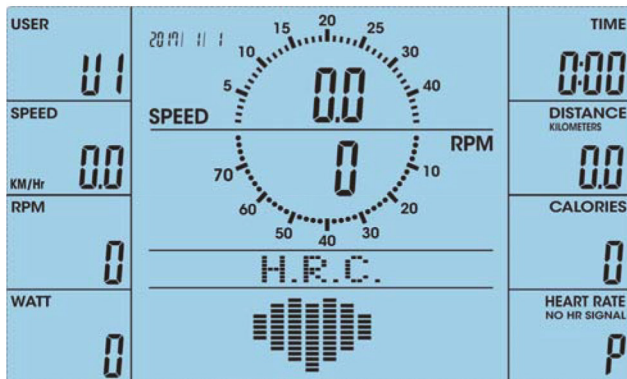

Fig. 38
1. In the H.R.C. mode (fig. 38), the screen displays 55%, 75%, 90%, and TARGET (fig. 32 to 35). Choose the preferred heart rate with the UP/DOWN buttons.
① NOTICE